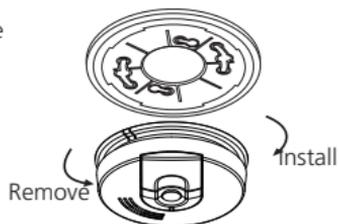

FIGURE 6
2. After selecting the proper smoke alarm location as described in Section 1 and wiring the AC Quick Connector as described in the WIRING INSTRUCTIONS, attach the trim ring to the electrical box (see Figure 6). To ensure aesthetic alignment of the alarm with the hallway or wall, the "A" line on the mounting bracket must be parallel with the hallway when ceiling mounted, or horizontal when wall mounted.